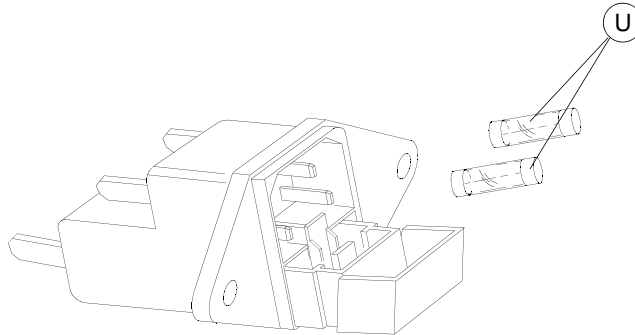

Fig. 20
- 2) remove the fuses box placed below the key-cutting machine socket (fig.20).
- 3) replace the fuses (U).